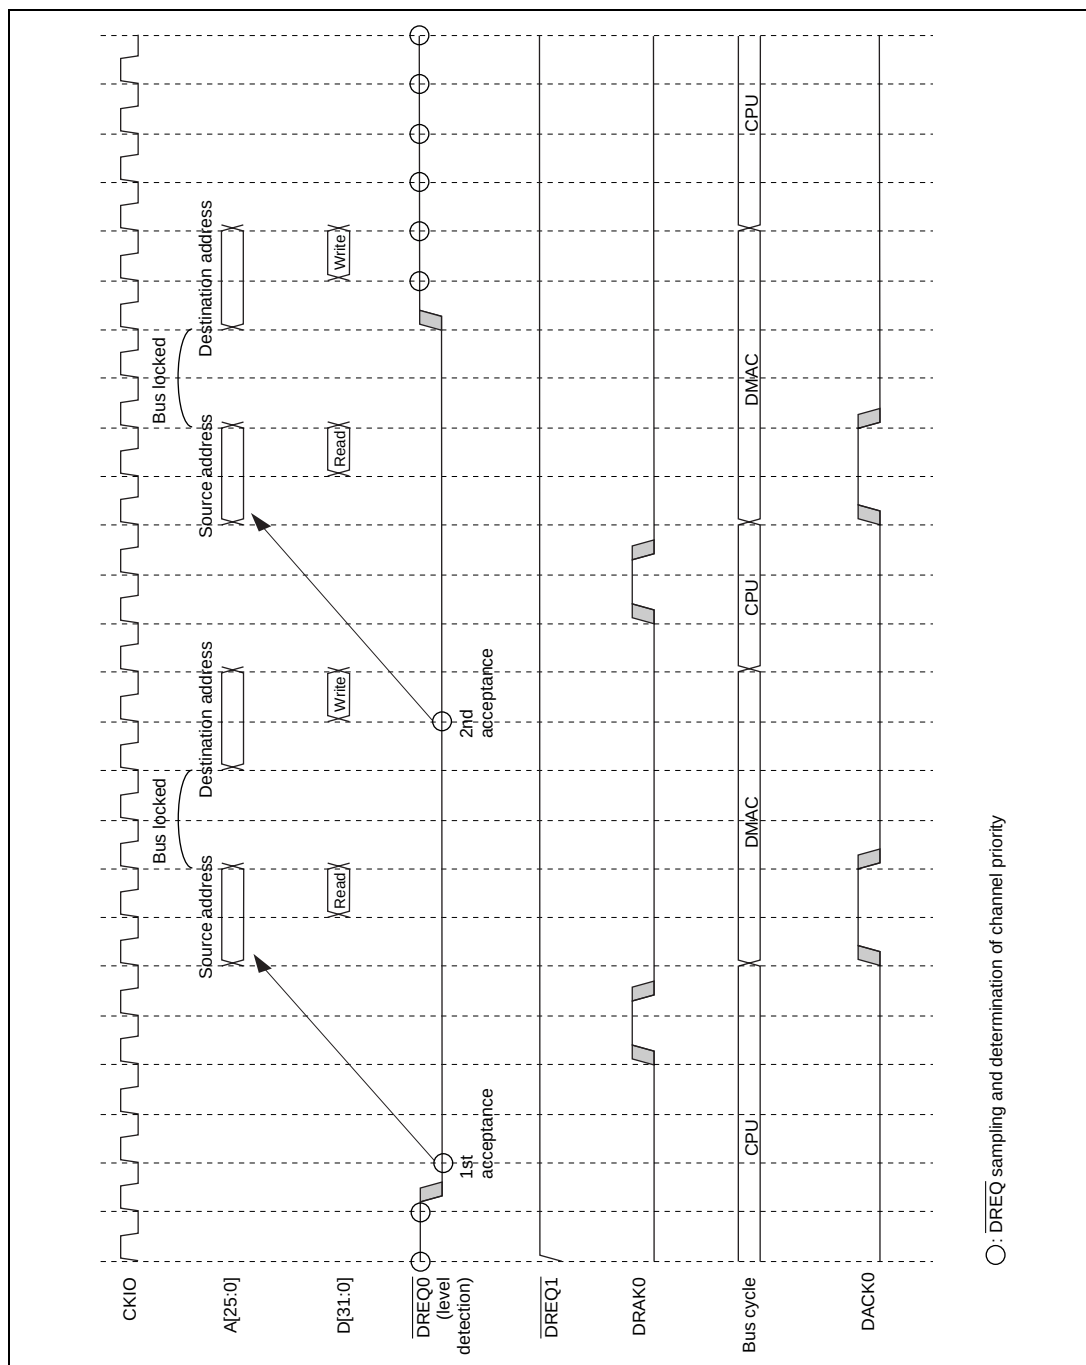

**Figure 14.12 Dual Address Mode/Cycle Steal Mode**
**Operation:** Figures 14.12 to 14.22 show the timing in each mode.
For example, in figure 14.12 (cycle steal mode, dual address mode, level detection), DMAC transfer begins, at the earliest, four CKIO cycles after the first sampling operation. The second sampling operation is performed one cycle after the start of the first DMAC transfer write cycle. If  $\overline{\text{DREQ}}$  is not detected at this time, sampling is executed in every subsequent cycle.